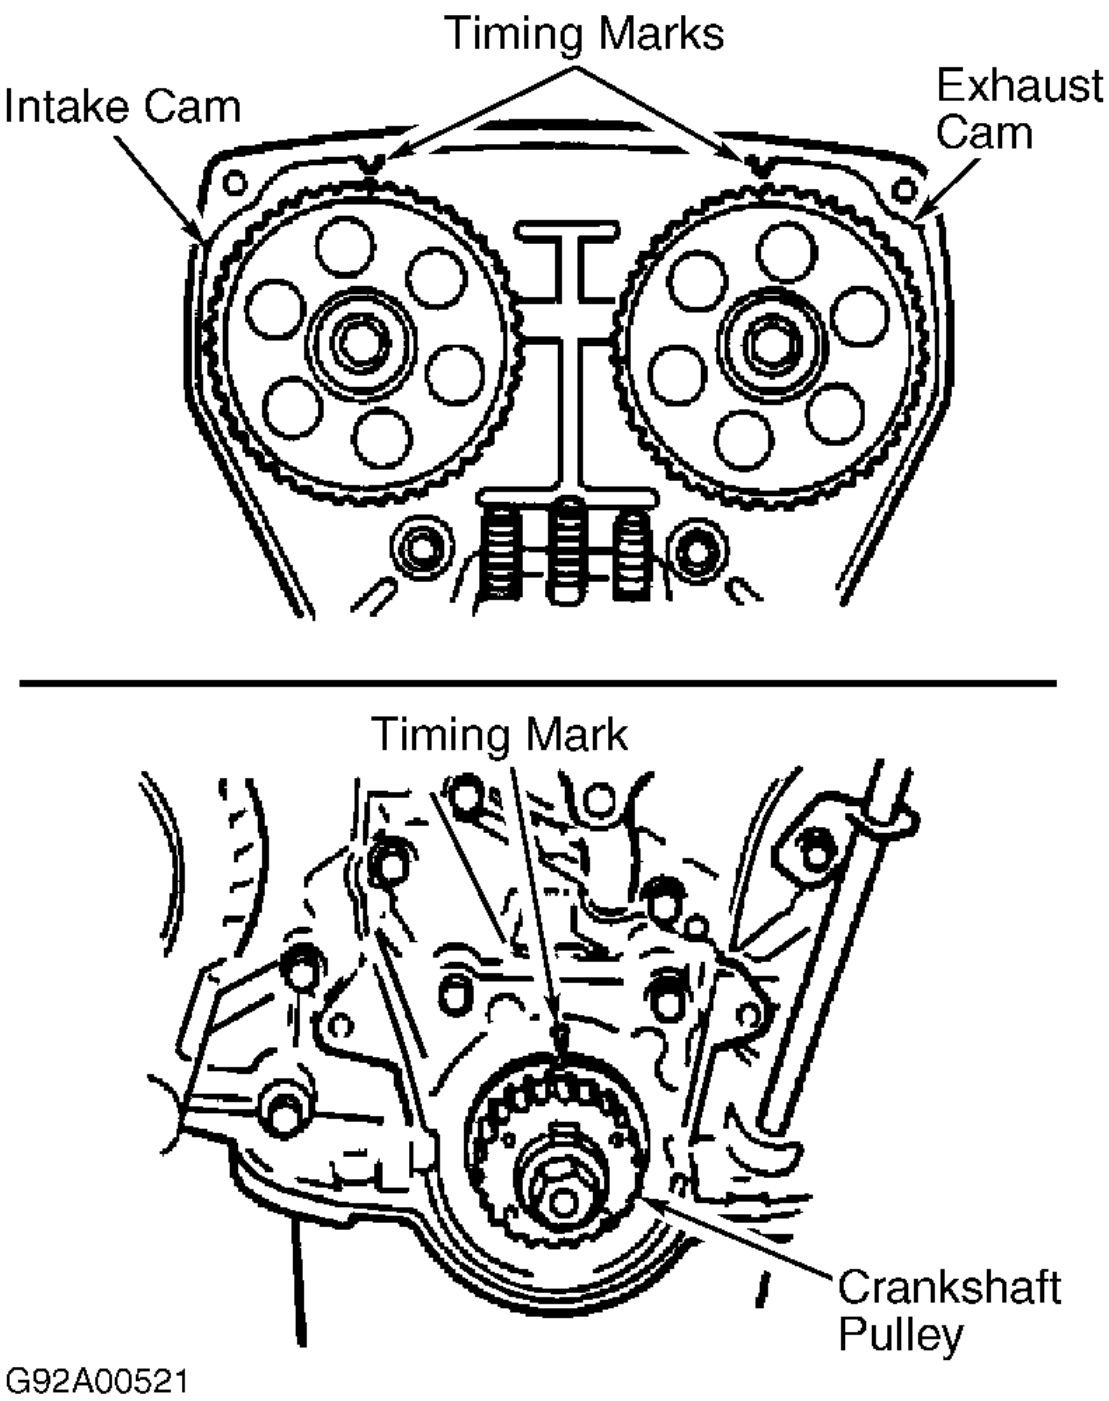

Fig. 4: Aligning Camshaft & Crankshaft Timing Marks (1.6L)
1. Ensure timing belt and sprockets are clean and not worn or damaged. Ensure timing marks are properly positioned on camshafts and crankshaft. Intake cam should have letter "I" aligned with arrow on belt cover. Exhaust cam should have letter "E" aligned with arrow on belt cover. Crankshaft key should align with arrow. See Fig. 4 .